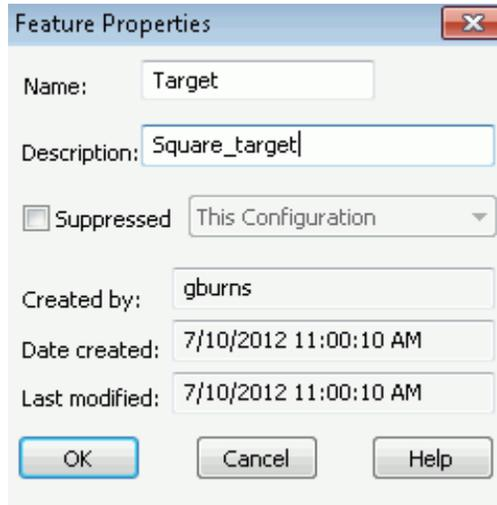

Figure 48 Name and description of component in the Feature Properties dialog box
- 18 Change the **Name** and **Description** on the Feature Properties dialog box to describe the component, and click **OK**. See Figure 48.